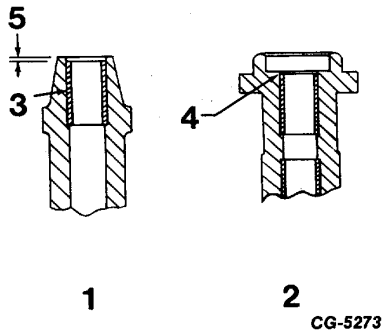

Fig. 32 Lower Bushing Location Dimensions.
6. Press lower bushing into housing to dimension shown in Figure 32.